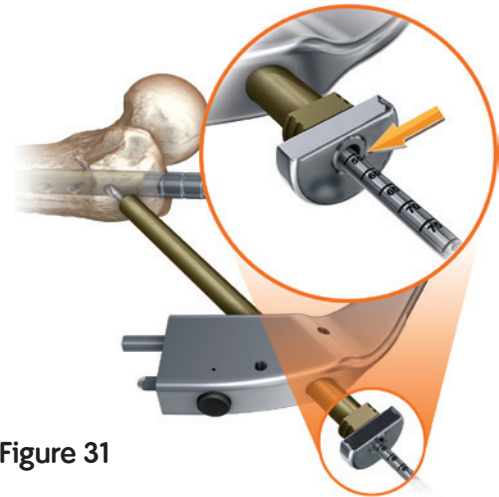

Figure 31
6. Measure for screw length using either the calibrations on the 4.0mm Long Pilot Drill (Figure 31) or by removing the Drill Sleeve Trocar and using the Screw Depth Gauge (71631189).